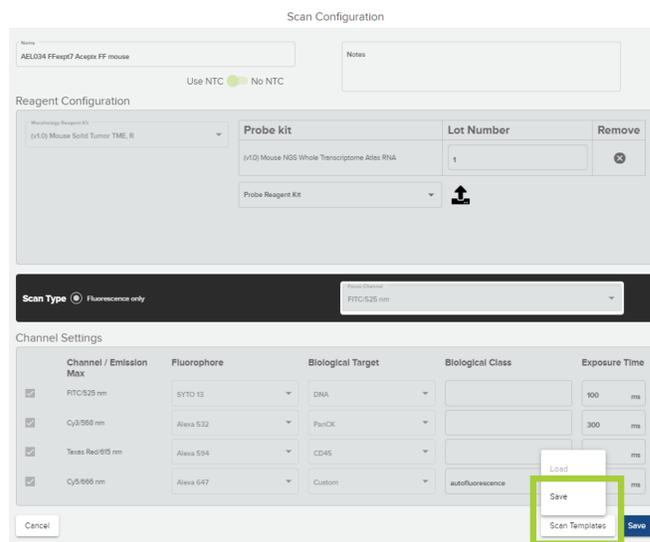

Figure 19: Save configuration as scan template
2. Click **Scan Templates**, then **Save** (Figure 19).